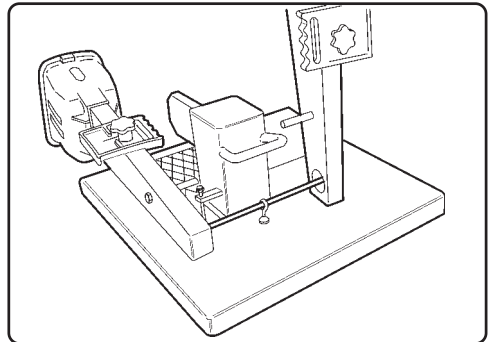

Fig. 13
- Insert the rocker arm in the housing of the second control lever and insert the lever stud in the appropriate hole on the frame and then fix it with a self-locking nut (Fig.13).